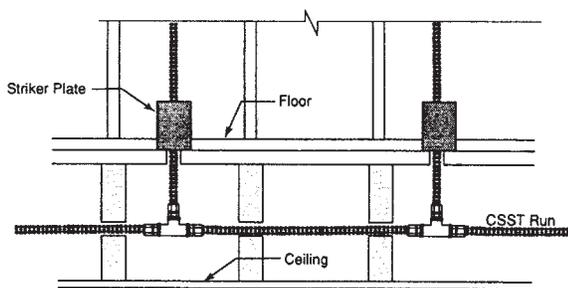

Figure: 4-4 Multiple outlets along main tubing run
- Multiple gas outlets – when multiple outlets are supplied from a single run of piping, each downstream outlet branch can be connected to the main run using a tee fitting which can be located in a concealed location. (See Figure: 4-4).